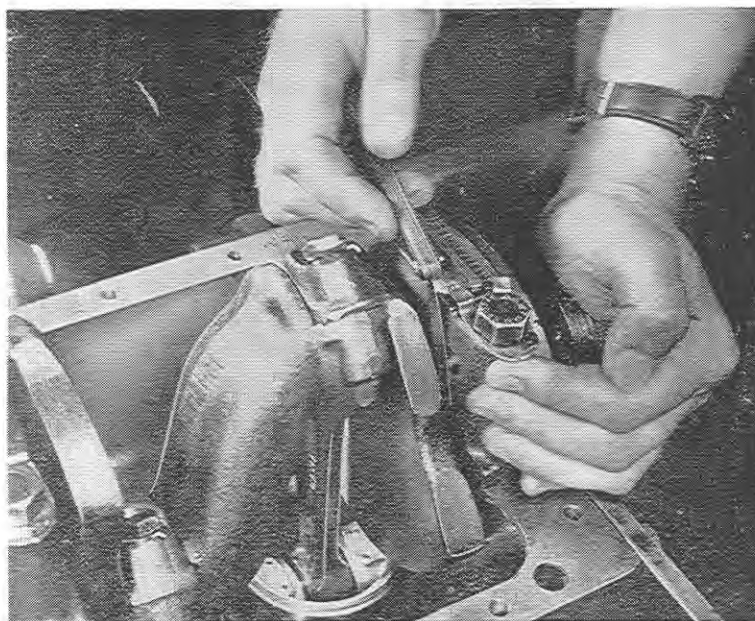

Fig. 35
- 3) With the thumb or finger press the remainder of the strip into the groove, working from the center. Using a suitable round bar further bed in the strip by rolling and pressing its inner diameter (Fig. 35).